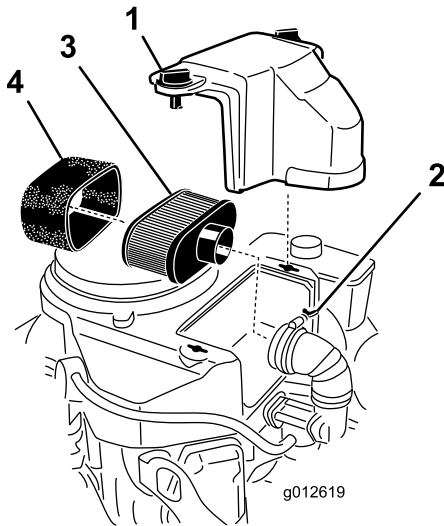

Figure 25
3. Clean around the air cleaner to prevent dirt from getting into the engine and causing damage (Figure 25).
4. Unscrew the cover knobs and remove the air-cleaner cover (Figure 25).
5. Unscrew the hose clamp and remove the air cleaner assembly (Figure 25).
6. Carefully pull the foam element off the paper element (Figure 25).
1. Do not clean the paper filter, replace it (Figure 25).
1. Carefully slide the foam element onto the paper air-cleaner element (Figure 25).
2. Place the air cleaner assembly onto the air cleaner base and secure it with the 2 wing nuts (Figure 25).
3. Place the air-cleaner cover into position and tighten the cover knob (Figure 25).